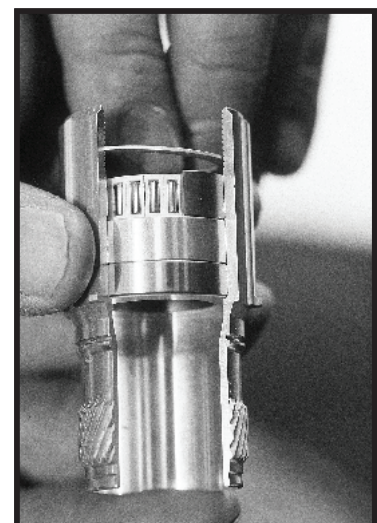

Figure 36 - needle bearing & capture plate
10. Insert capture plate. (See figure 36.)